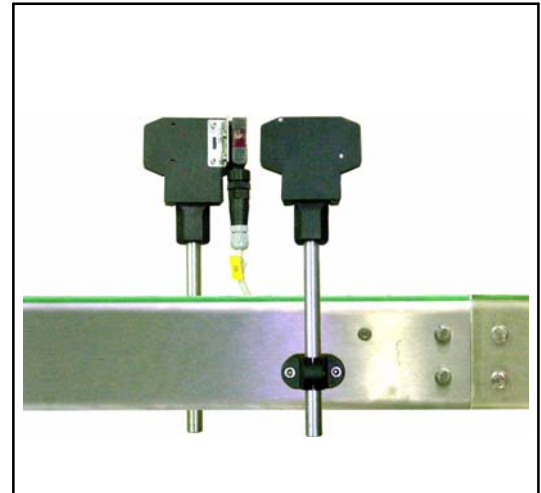
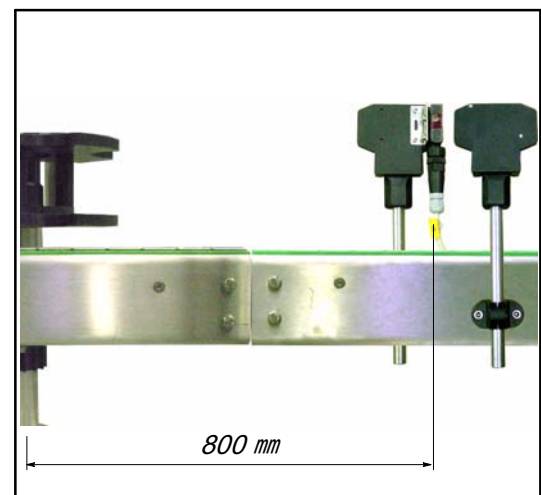

Fig.24
Fig.25
- Place the photocell for the automatic entrance start up and the one for the stop in case of bottles accumulation in exit as described in Fig.24 and Fig.25.